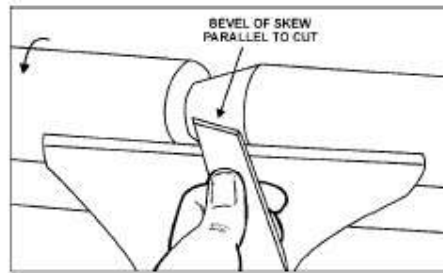

FIG.10
3. Move the point of skew to the right half of the desired width of your cut, see Figure 10.